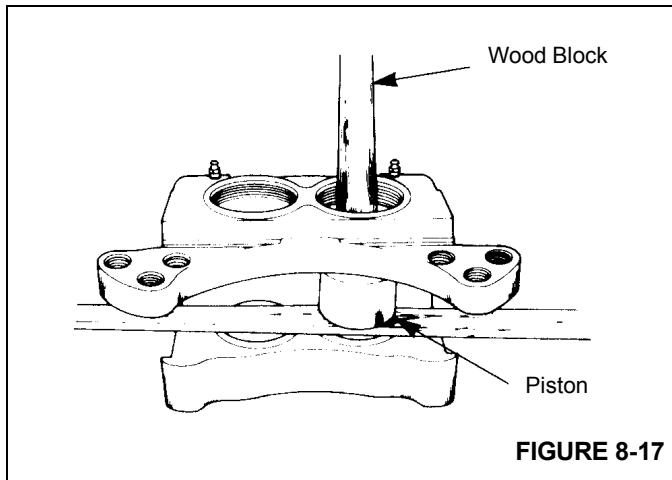

FIGURE 8-17
7. Remove the pistons from the mounting plate side of the housing. Push on the ends of the pistons to force them out of the disc side of the housing (Figure 8-17).